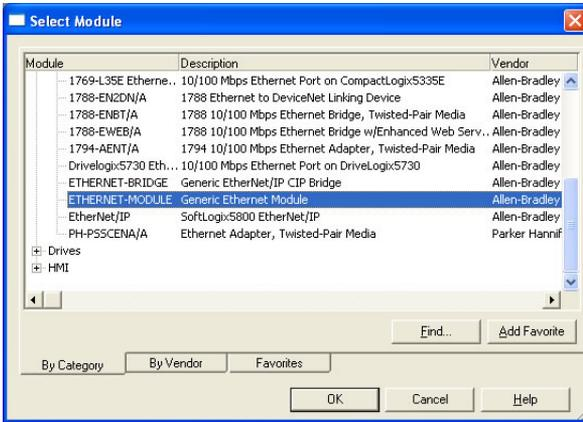

Figure 83: Adding a New Generic Ethernet Module
- 3) Choose “Generic Ethernet Module” in the Select Module dialog box and click “OK”. Refer to Figure 83.